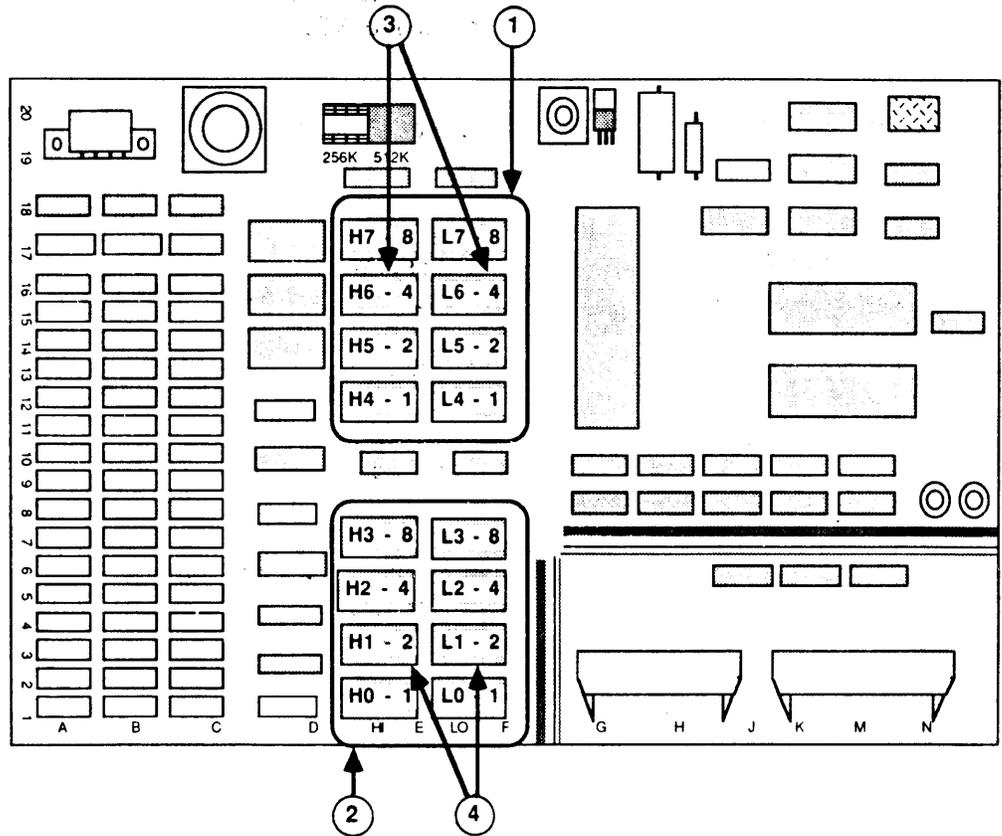

FIGURE 1
**If the value of T is greater than 0,** an error was encountered in the top or upper bank of ROMs (Figure 1, #1).
**If the value of B is greater than 0,** an error was encountered in the bottom or lower bank of ROMs (Figure 1, #2).
The value of **T** or **B** indicates which **pair** of ROMs may be bad. Figure 1 shows the values of the error codes next to the number of the ROMs.
For example, if you received the error **XXXXXX40**, the position of the "4" (corresponding to the **T**) in the error code indicates an error occurred in the top bank (Figure 1, #1). The value "4" indicates which ROMs in the top bank may be bad. In this example, the indicated ROMs are H6 or L6 (Figure 1, #3).
If you received the error **XXXXXX02**, the position of the "2" (corresponding to the **B**) in the error code indicates an error occurred in the bottom bank (Figure 1, #1). The value "2" indicates which ROMs in the bottom bank may be bad. In this example, the indicated ROMs are H1 or L1 (Figure 1, #4).